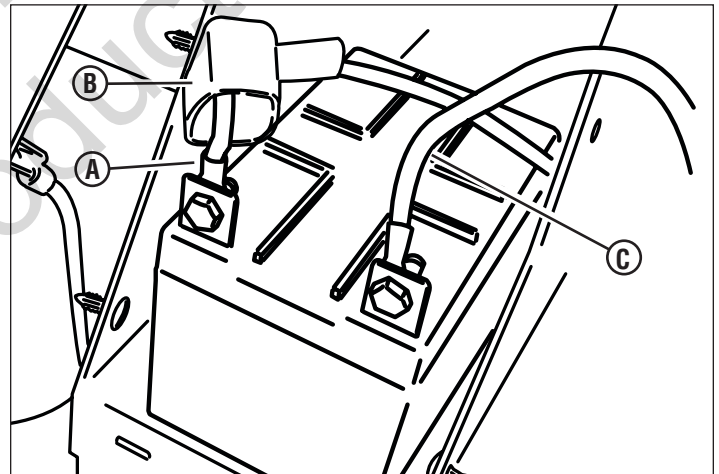

Figure 18
- C. Install the positive (+) cable (A, Figure 18) first., securing with the 1/4" center lock nuts. Place the positive (+) terminal insulator (B) over positive terminal and cable. Install negative (-) cable (C) last, after the positive terminal insulator has been installed.